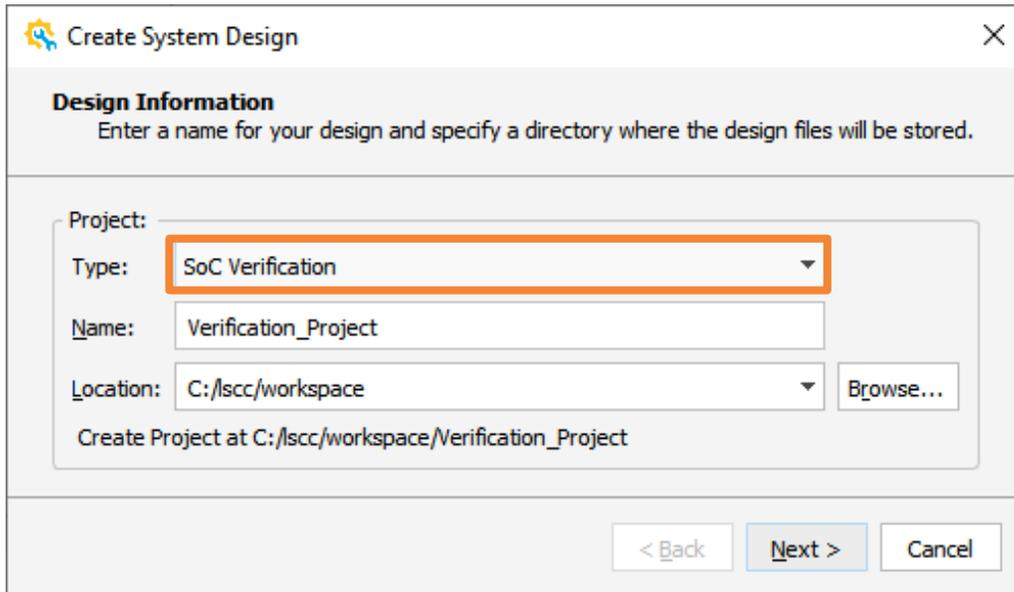

Figure 2.113. Create System Design – Design Information Wizard
1. Choose **File** >  **New Design** from Lattice Propel Builder Menu Bar. The Create System Design wizard opens (Figure 2.113).